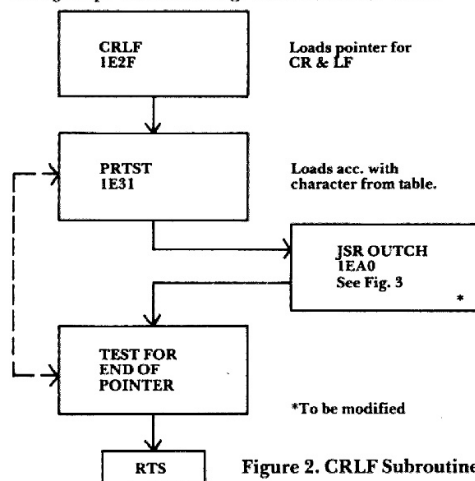

Figure 2. CRLF Subroutine
7. START. First is a jump to subroutine INIT1 (1E8C) which is the same as before, it sets up the ports. The accumulator is loaded with 01, and SAD is tested again for TTY or KB mode. If there's a 1 in PA0 it branches to KB mode. If no KB mode, it then jumps to CRLF, Fig. 2 & 3, (1E2F), which